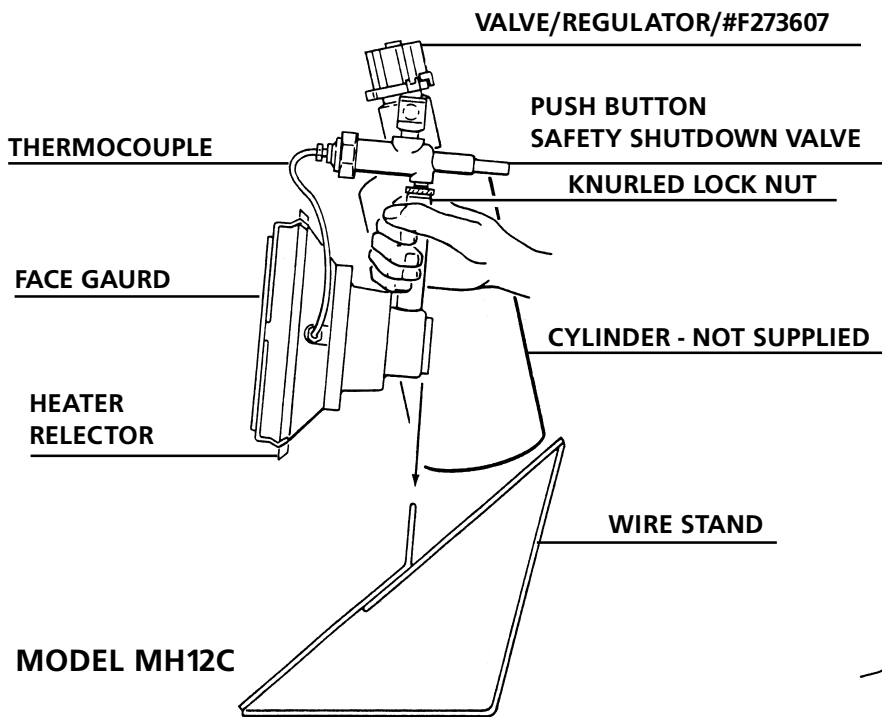
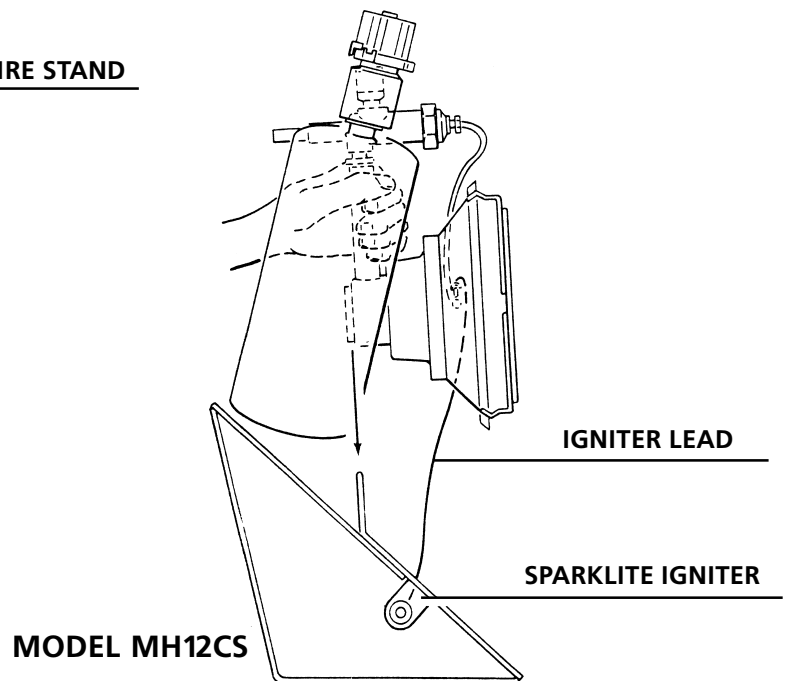

Figure 1
Figure 2
- 1.3 Hold heater in one hand and with the other hand hold propane cylinder vertically and carefully turn clockwise into heater valve-regulator until snug. (Careful not to cross-thread) – Fig. 1 and Fig. 2.
- 2.1 Grasp heater model by cylinder and hold wire stand with other hand. Slide mounting clip on back of heater onto chrome plated wire stand. Fig. 1 and 2.
- 2.2 Push igniter lead onto end of Sparklite Igniter on Model MH12CS-Figure 2.
- C. Make sure the heater is firmly placed in the metal stand. (See Figure 1 and 2).
- D. Make sure knurled lock nut is tightened securely – Figure 1.